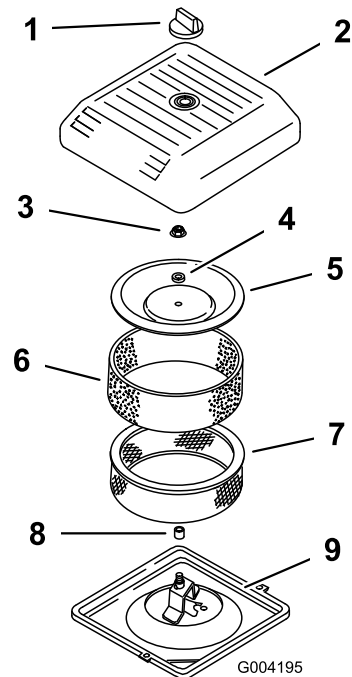

Figure 17
3. Unscrew the knob and remove the air cleaner cover (Figure 17).
4. Carefully slide the foam pre-filter off of the paper element (Figure 17).
5. Unscrew the cover nut and remove the cover, spacer and paper filter (Figure 17).
2. Place the air cleaner assembly onto the air cleaner base (Figure 17).
3. Install the cover, spacer and secure it with the cover nut (Figure 17). Torque the nut to 95 inch-lb (11 N·m).
4. Install the air cleaner cover and secure it with the knob (Figure 17).